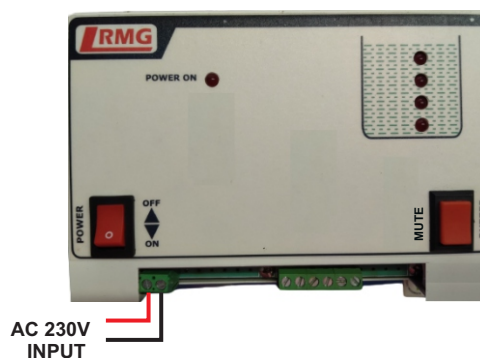

Figure1: Power connection
Step 2: Connect AC 230V to Red and Black wires of the indicator respectively (refer figure 1)